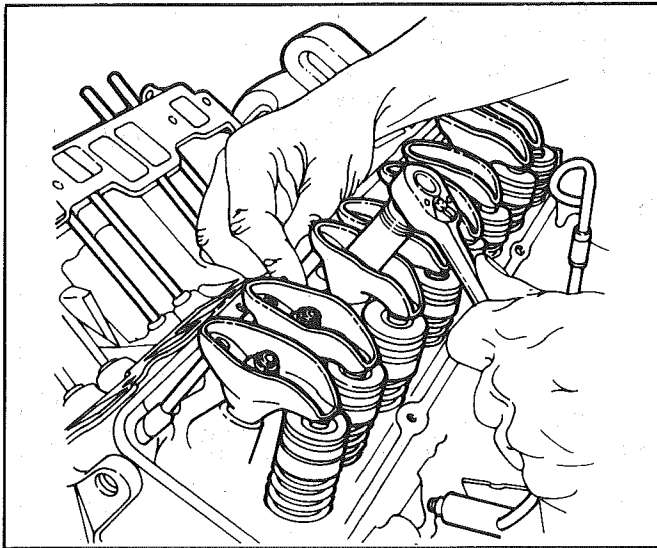

Fig. 6A3-8 Valve Adjustment - Typical
- c. Back out adjusting nut until lash is felt at the push rod then turn in adjusting nut until all lash is removed. This can be determined by rotating push rod while turning adjusting nut (fig. 6A3-8). When play has been removed, turn adjusting nut $1\frac{1}{4}$ in additional turn (to center lifter plunger).